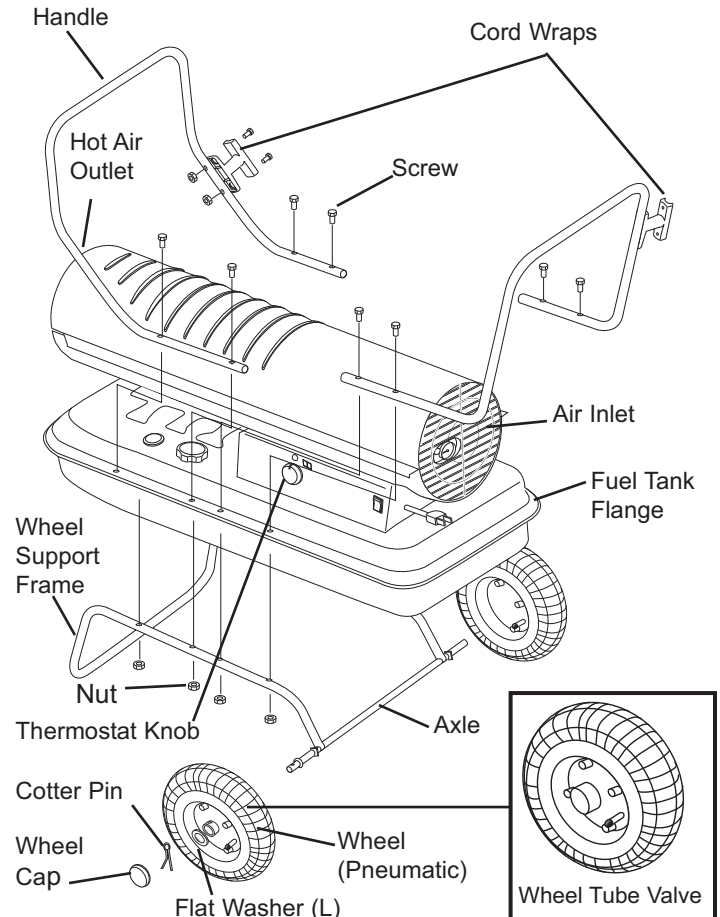

Figure 7. Assembly of Models MH-125T/175T/215T-KFA
1. Slide axle through holes in wheel support frame. Slide wheel bushings and flat washer (A) on to each end of axle.
2. Slide wheels on to each axle, being sure that the valve stem (if pneumatic) is to the outside (**see Figure 7**).
3. Slide flat washers (B) onto axle past the small hole. Insert cotter pin in axle hole and bent legs of pin with needle nose pliers to secure.
4. Snap the wheel caps onto the large washers (B).
6. Take the front handle and align the mounting holes with the corresponding holes in the tank flange/wheel frame. Slide a screw (A) through the holes and loosely attach a nut. Repeat for the other 3 holes, then fully tighten all 4 screws and nuts.
1. Align holes in cordwrap with corresponding holes in front handle. Insert screws (B) through holes, attach nuts and tighten (see **Figure 7**).